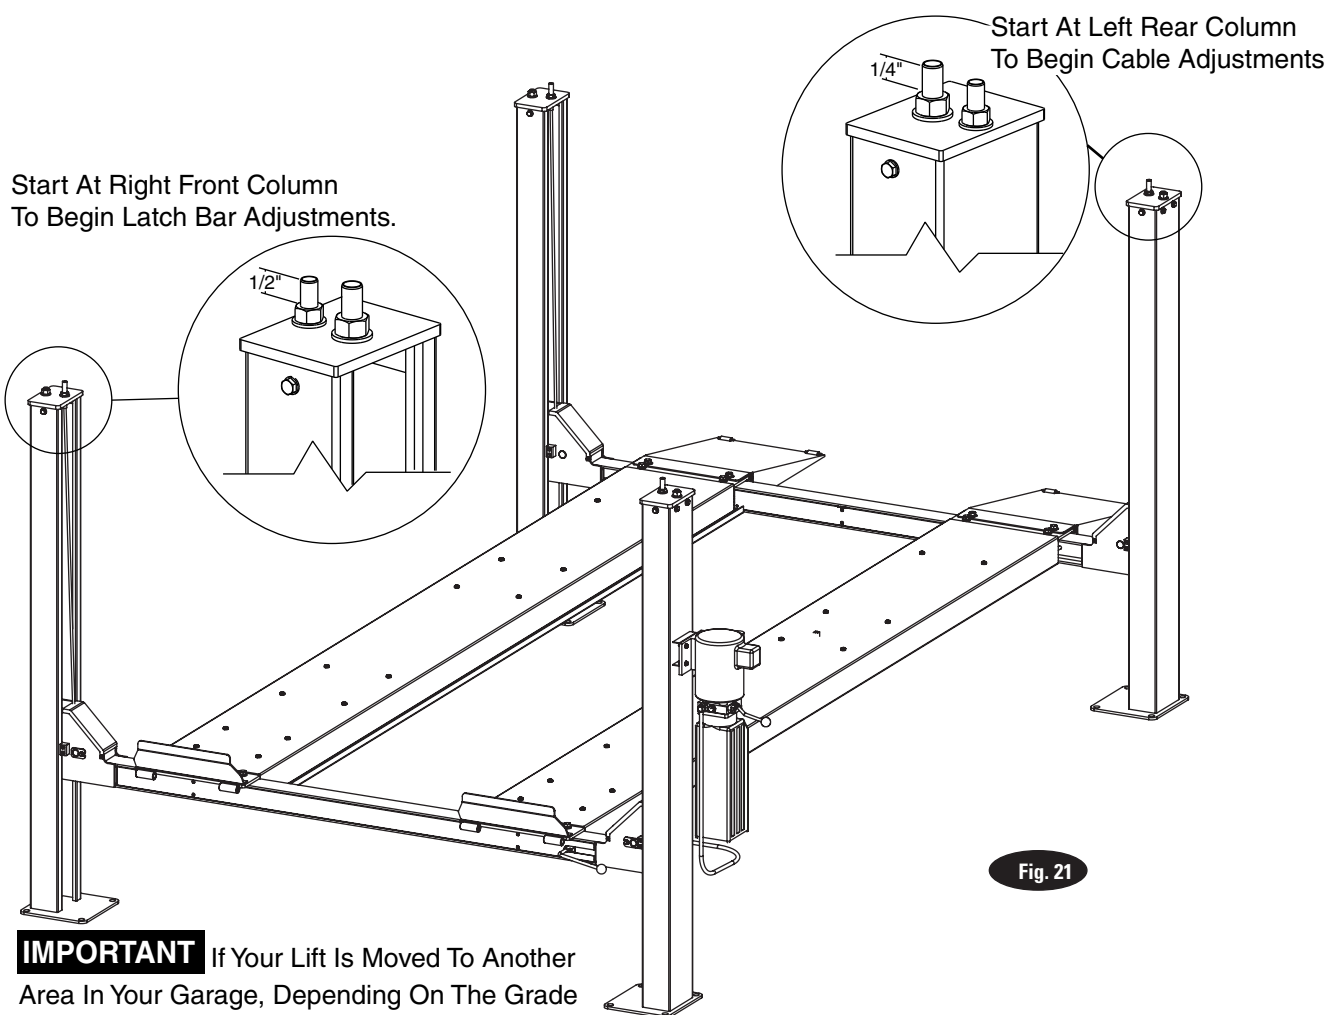

Fig. 21
B.) Start at the right front column and loosen jam nut and adjust your latch bar until there is 1/2 inch of thread is exposed out of the top of the nut on top of the column, Fig. 21. Retighten jam nut.
E.) Adjust the left rear cable to expose 1/4 inch of the cable out of the top of the nut, Fig. 21.